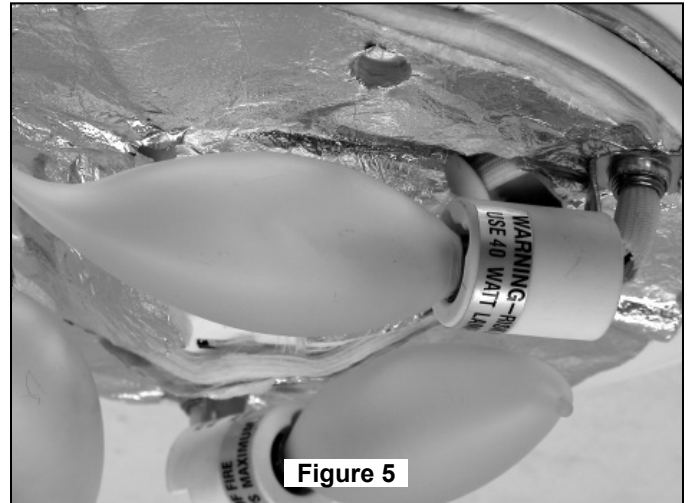

Figure 5
5. Install three Candelabra Bulbs (included - 25 watts max) in each of the sockets on the Downlight Socket Plate Assembly. (Figure 5)